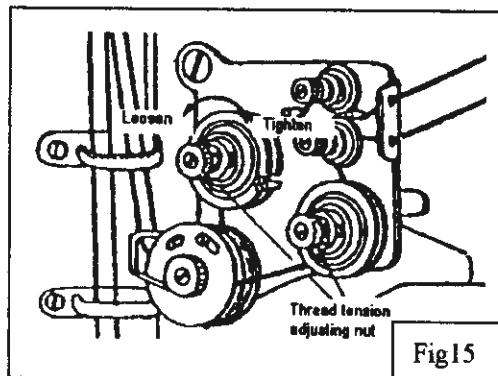

Fig.15
10、Upper thread tension (Fig.15):